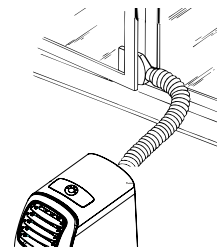

Fig. 2.
2) Adjust the length of the hose to reach the window. Make sure the air exhaust hose is unobstructed. Open the window or French window slightly and position the outlet (fig. 2).